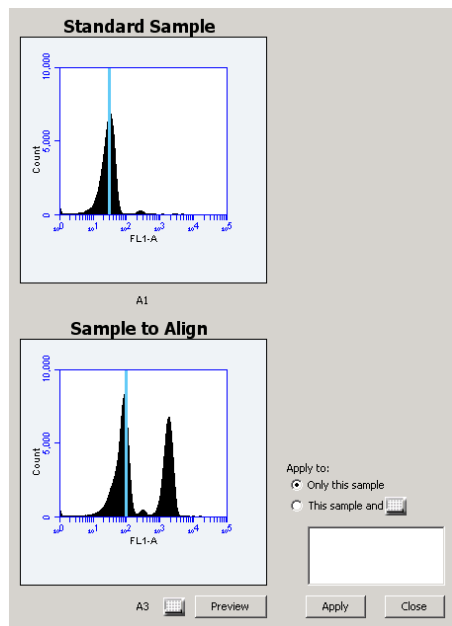

Figure 7-5. Move the Peak Definition Marker
- Move the peak definition marker in the Sample to Align plot to the center of the peak to align (Figure 7-5).